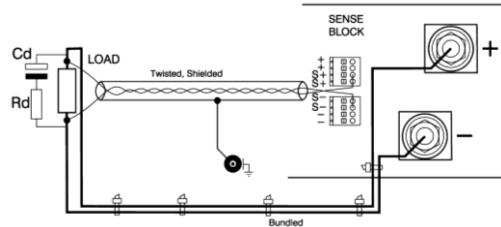

Figure 7.5: Remote sensing with shielded twisted wires and the power cables bundled close together to minimize inductance.
- The leads are only thin measuring wires but always have to be shielded. In order to prevent interference, it is advisable to twist the leads. See Figure 7.5.